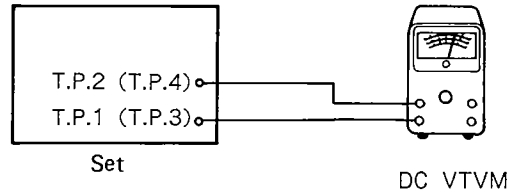

Figure 13
### (1) Idling Adjustment (Figure 13)